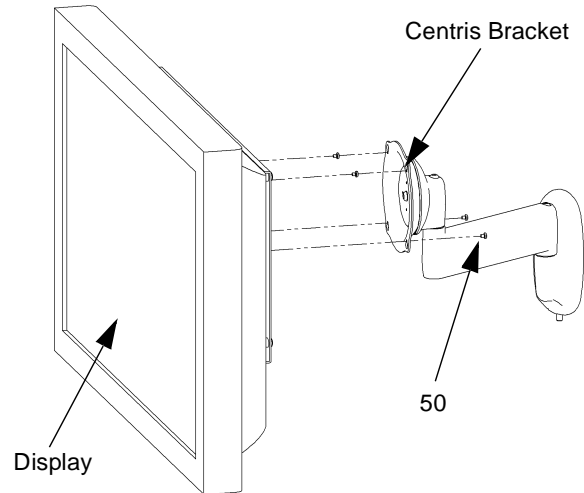

Figure 4: Flush Mount Centris Bracket to Display
1. Install two M4 x 8mm screws (50) into the top mounting holes (not shown) on the display .
2. Align the mounting holes on the Centris bracket with the screws installed on the display. Hang the display on the Centris bracket. (see Figure 4)
3. Install two remaining M4 x 8mm screws (50) into the bottom mounting holes on the display.